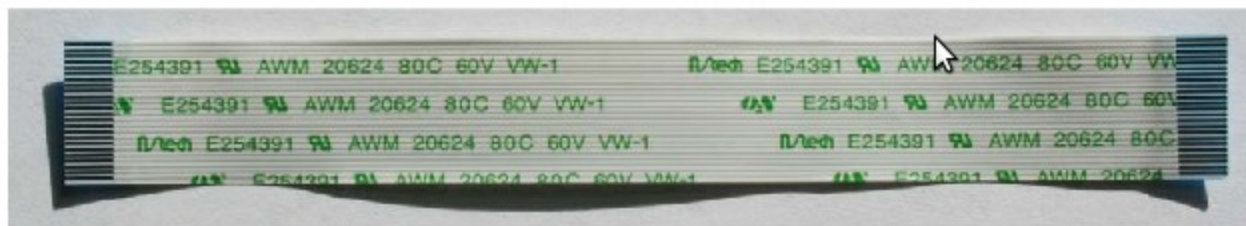

Figure 21. 24-pin Flex Cable
1.2.10 24-pin Flex Cable (Figure 21)